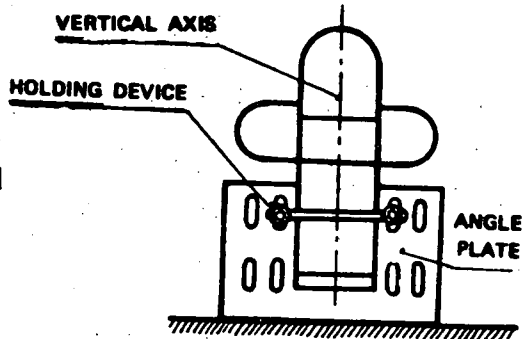

Fig. 3
2. If the piece does not have a suitable reference surface, hold it with an angle plate (Fig. 3).